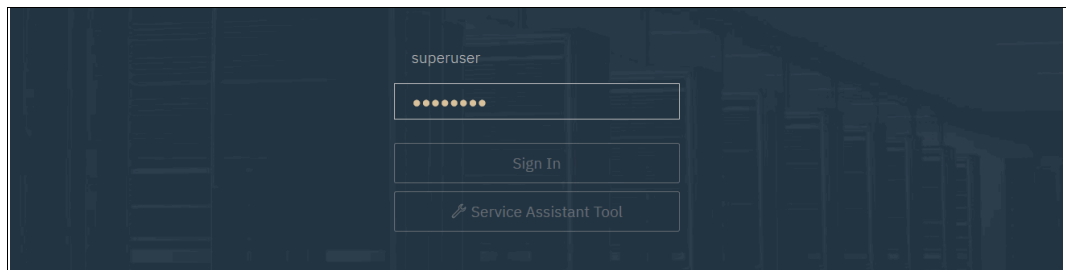

Figure 3-9 System Setup: Logging in for the first time
1. Log in to system GUI. Until the wizard is complete, you may use only *superuser* account, as shown in Figure 3-9. Click **Sign in**.